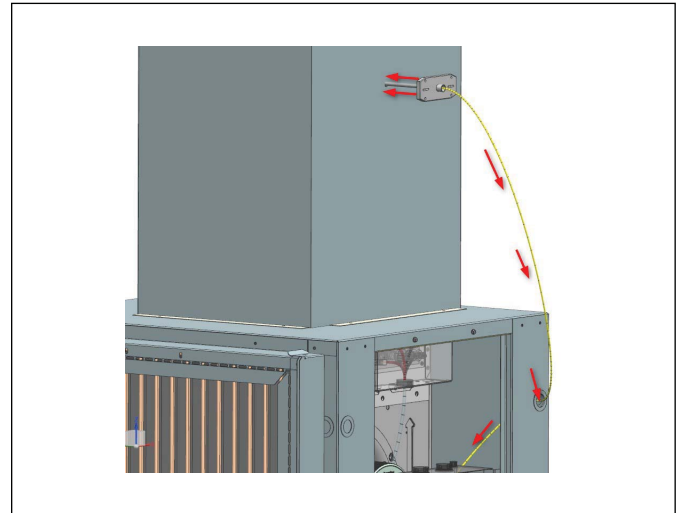

Figure 43
3. Drill 1/4" hole in center of duct work 12-18" away from unit. Using hardware provided, insert 8" discharge air temperature probe to hole and secure mounting flange to duct using hardware provided as shown in Figure 43.